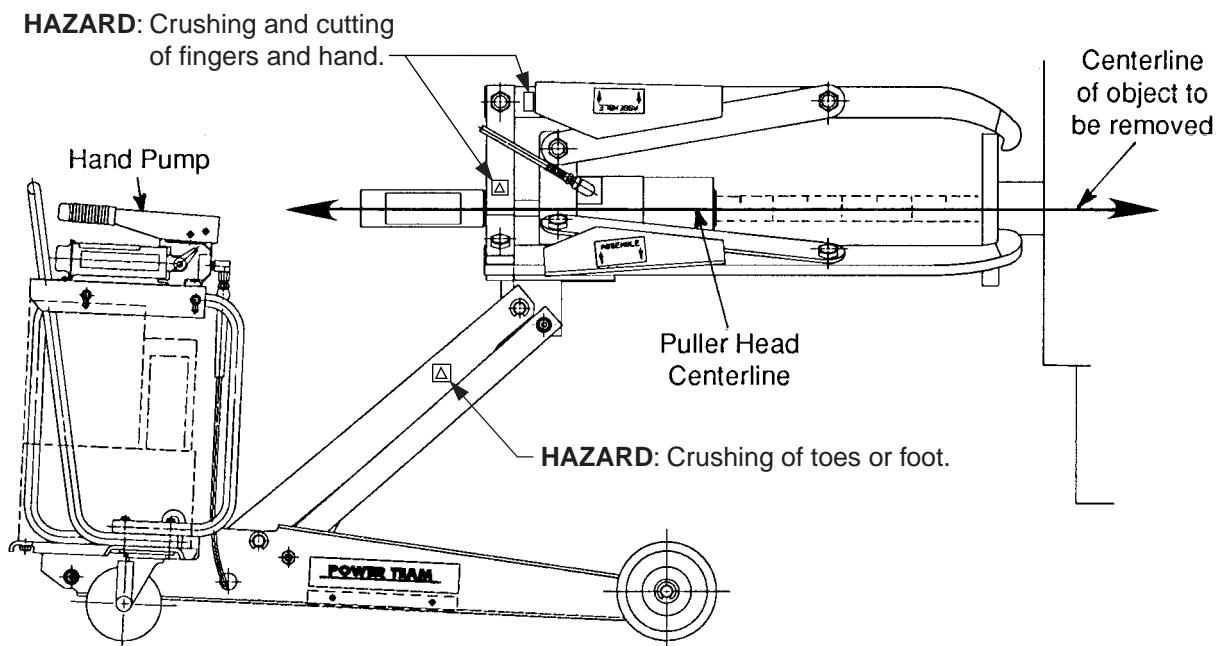

FIGURE 1
Refer to Figure 1.
1. Adjust vertical set-up by using the hand pump shown in Figure 1. The centerline of the object being pulled must be on the same centerline as the puller head.
2. Position the cart and puller as shown in Figures 1 and 2, with the puller centered on the workpiece to be pulled.